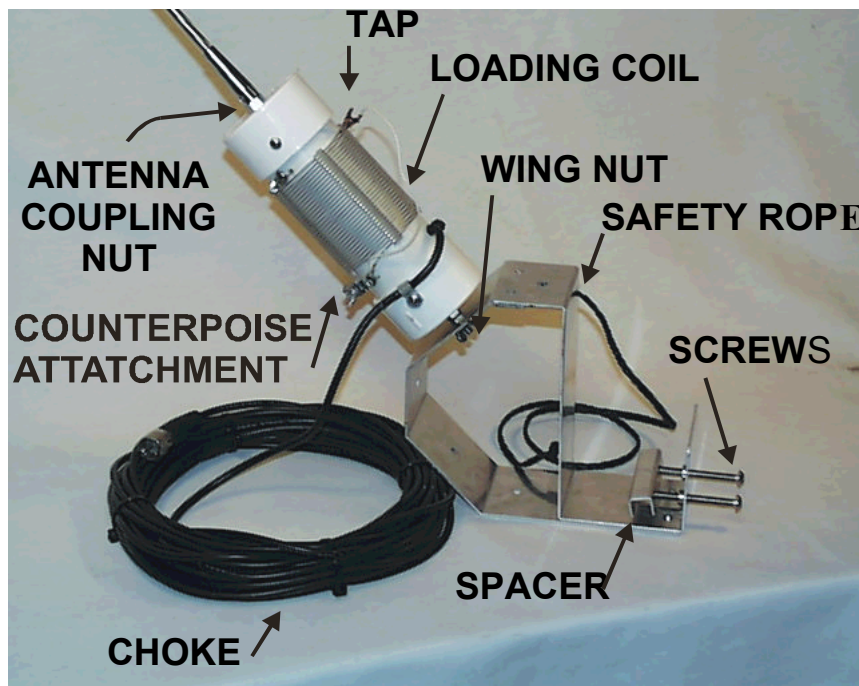

Figure 1
- [] 3. Screw the antenna into the coupling nut (shown in Figure 1) located on top of the coil assembly.
- [] 8. Use the three black wire ties supplied to tie the choke coils together. Space the ties out evenly around the circle. Figure 1 shows a picture of the finished choke.
- [] 9. Insert the $\frac{1}{2}$ " x 3 $\frac{1}{8}$ " bolts into the threaded holes on the base plate approximately one inch as shown in Figure 1.
- [] 10. Place the spacer plate onto the bolts as indicated in Figure 1.
- [] 11. Push one end of the safety rope through the rope hole as indicated in Figure 1. Tie a knot on both ends of the rope to secure it.
5. Decide which mount hole will be used on the mounting bracket according to your situation. There are five holes available. Figure 1 indicates the possible hole positions.